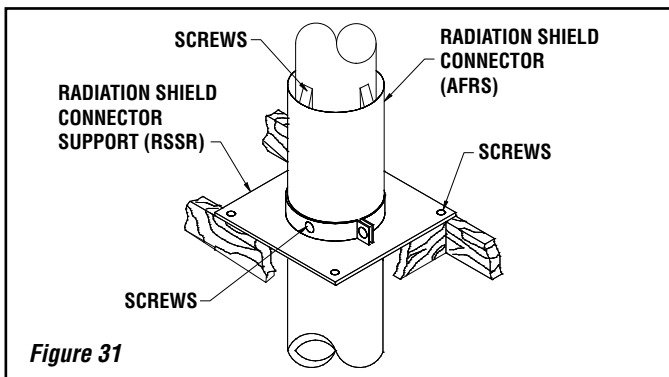

Figure 31
- At the ceiling level from the top, install a Radiation Shield Connector (RSC) and a Radiation Shield Support (RSSR) attach but not tighten together yet (see Figure 31).